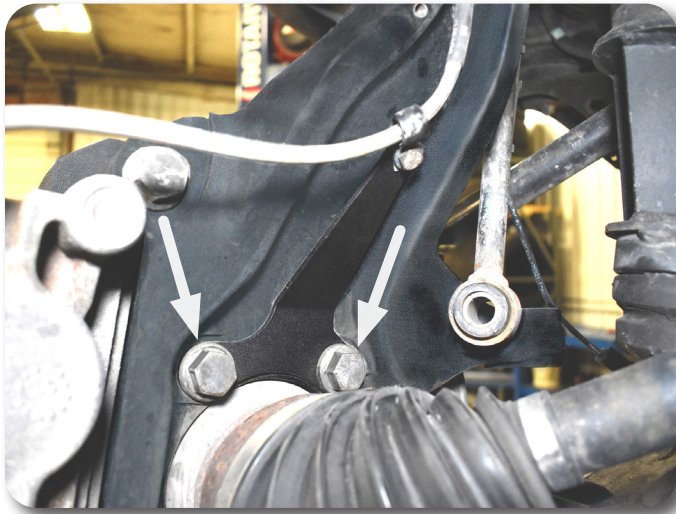

Figure 38
55. Install the hub assembly and dust shield into the appropriate steering knuckle. The ABS line will run out the top of the hub and behind the dust shield. Figure 38. Fasten the hub to the knuckle with the factory bolts along with the brake line routing bracket as shown in the figure below (05568 = DRV, 05569 = PASS. 05568 DRV shown below). Apply Thread locker to the threads and torque the hub bolts to 125 ft-lbs.